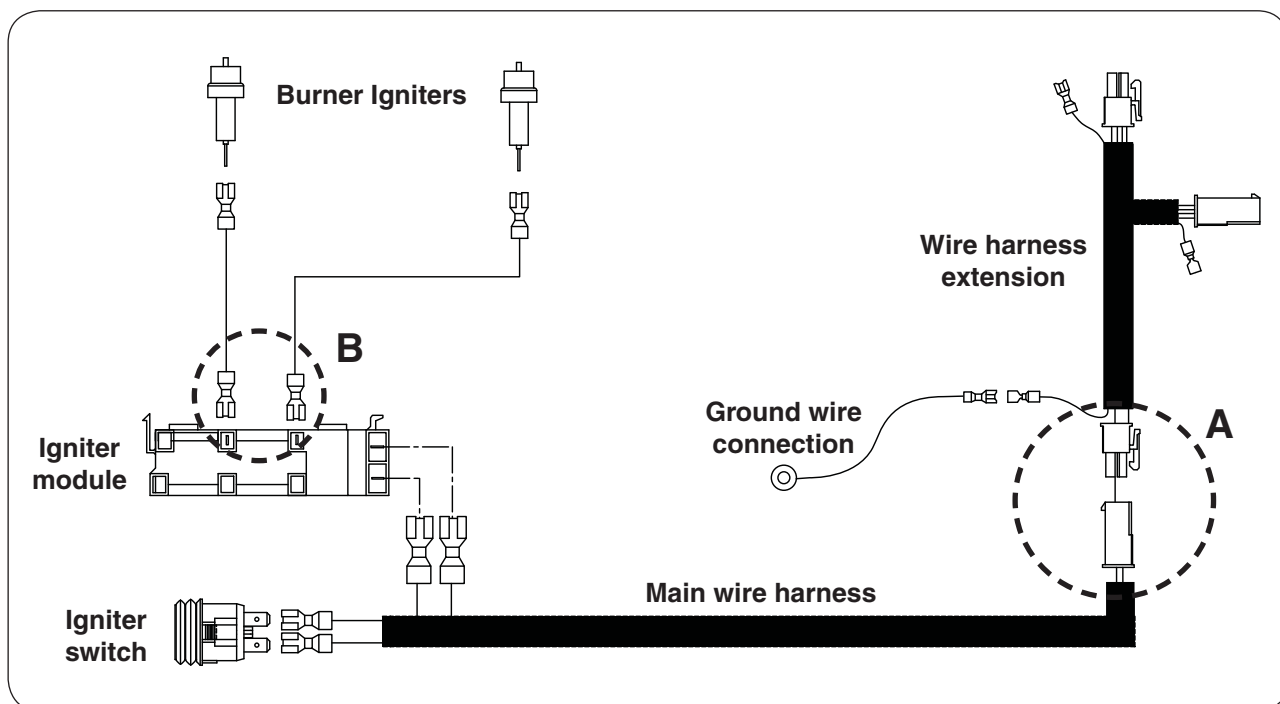

Fig. 24-1 - Wire diagram
6. Disconnect the main wire harness connections (Fig. 24-1, **A**) and the igniter wires (Fig. 24-1, **B**). It is recommended to temporarily label the wires for reference when reconnecting. See Fig. 24-1. When disconnecting, be sure to pull from the connectors, and not the wires.